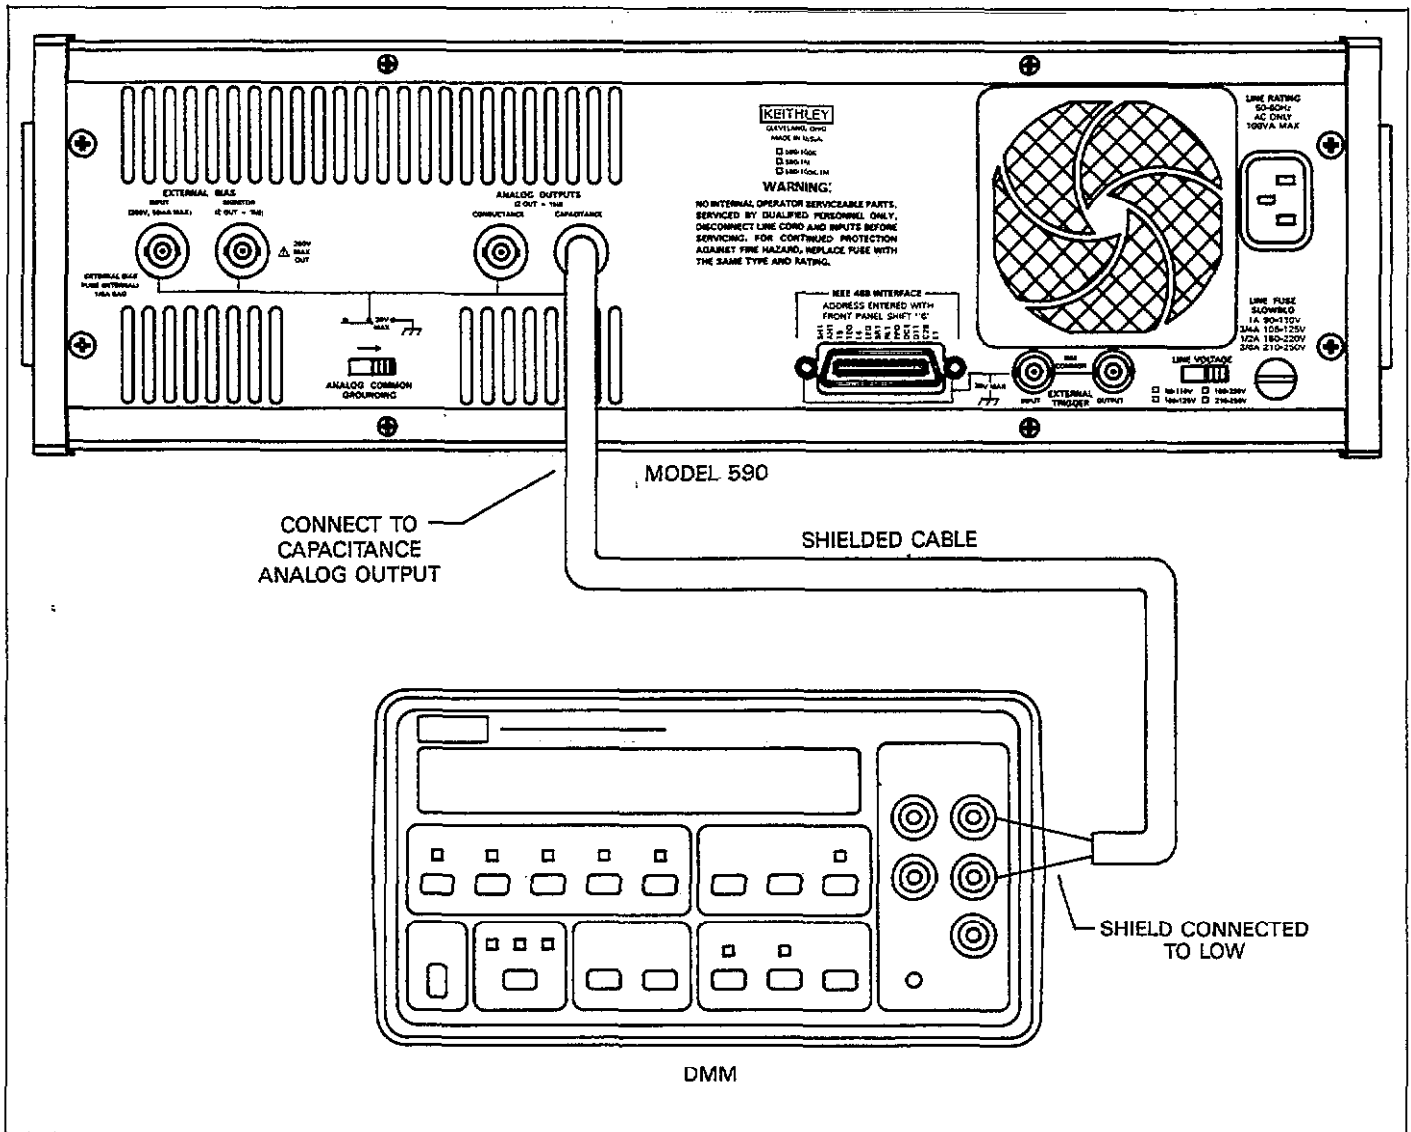

Figure 5-4. Connecting for Analog Output Capacitance Verification
3. Connect the DMM to the CAPACITANCE ANALOG OUTPUT jack on the rear panel, as shown in Figure 5-4. The DMM high terminal should be connected to
3. Connect the DMM to the CAPACITANCE ANALOG OUTPUT jack on the rear panel, as shown in Figure 5-4. The DMM high terminal should be connected to the center conductor, and the low terminal should be connected to the cable shield. Select the DCV function and autoranging